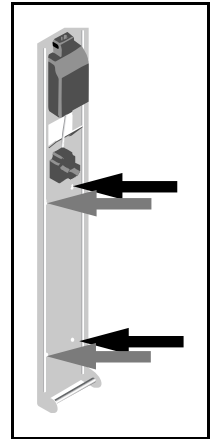

Fig. 1
- 3) Hold charger to wall, fit and tighten screws, see Fig. 1.